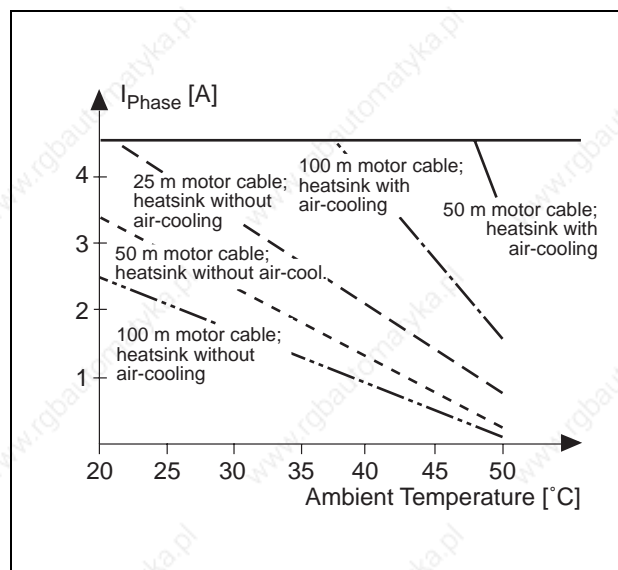
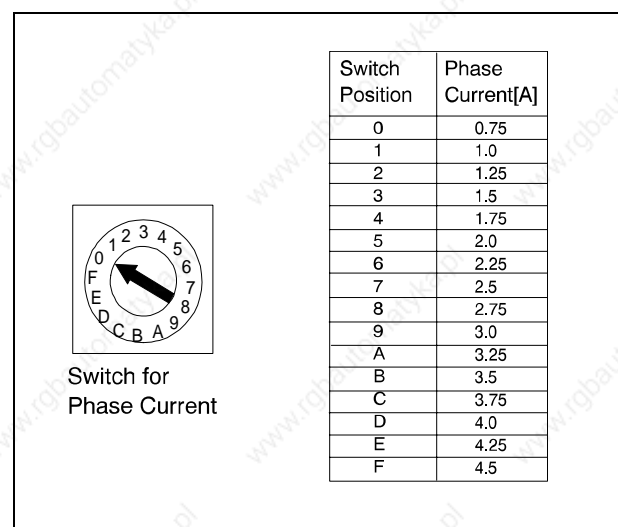

Figure 2-11 Permitted Phase Current Dependent on Ambient Temperature and Length of Motor Cable
Figure 2-12 Switch Settings Phase Current Selection Switch
2. Adjust phase current at the rotary switch 01 (see figure 2-12) according to the motor data label. Pay attention to the diagram in figure 2-11.
For possible adjustments see figure 2-12. If the phase current which is stated on the motor data label should not be adjustable, choose the next smaller value.